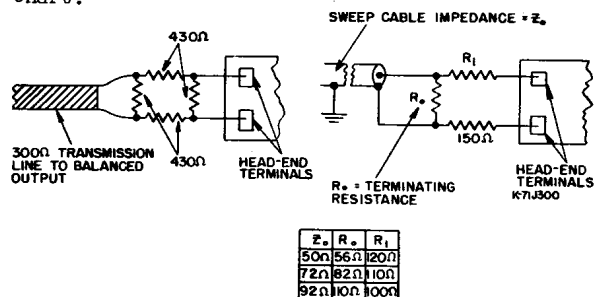

FIG. 6 SWEEP EQUIPMENT TERMINATION
1. Connect the sweep generator to the antenna terminals (T101) using a balanced adapter to obtain 300 ohms output. When using test equipment of the unbalanced output type, a pad, as shown in Fig. 6, may be used instead. Set sweep generator to produce a sweep width of 10-15 mc.